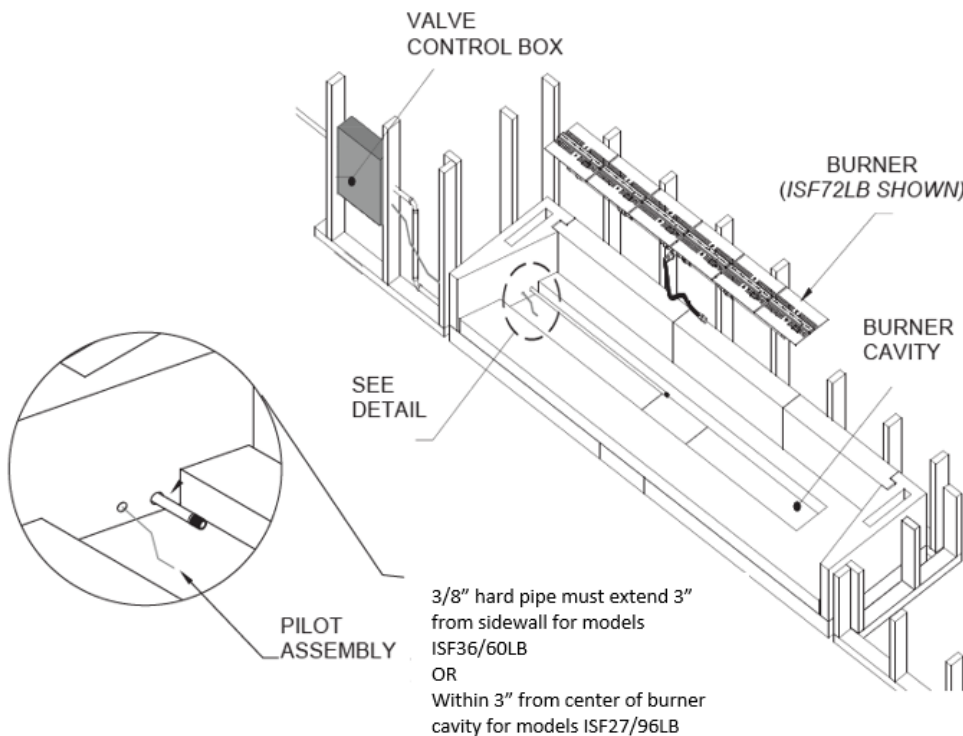

FIGURE 60
- 4) The 48" and 72" Maximus Linear Open Front fireplaces (82L48 & 82L72) will require the ISF36/60LB (respectively): Gas supply piping for these models shall terminate not less than 3" from sidewall. (**Figure 60**)
- 5) The 96" and 120" Maximus Linear Open Front fireplaces (82L96 & 82L120) will require the ISF72/96LB (respectively): Gas supply stub piping for these models shall terminate within 3" from center of the cavity. (**Figure 60**)